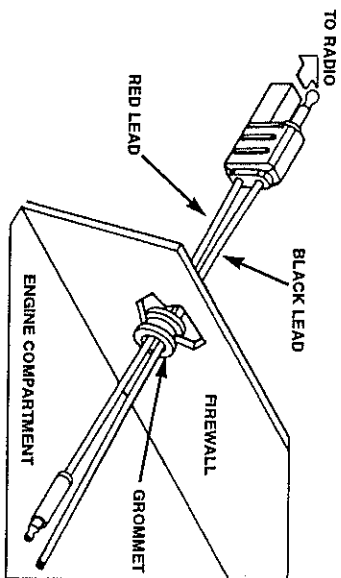

Figure 5. Power Cable Routing Into Engine Compartment
3. From inside the vehicle, feed the red and black leads (without lugs attached) through the access hole and into the engine compartment (refer to Figure 5).